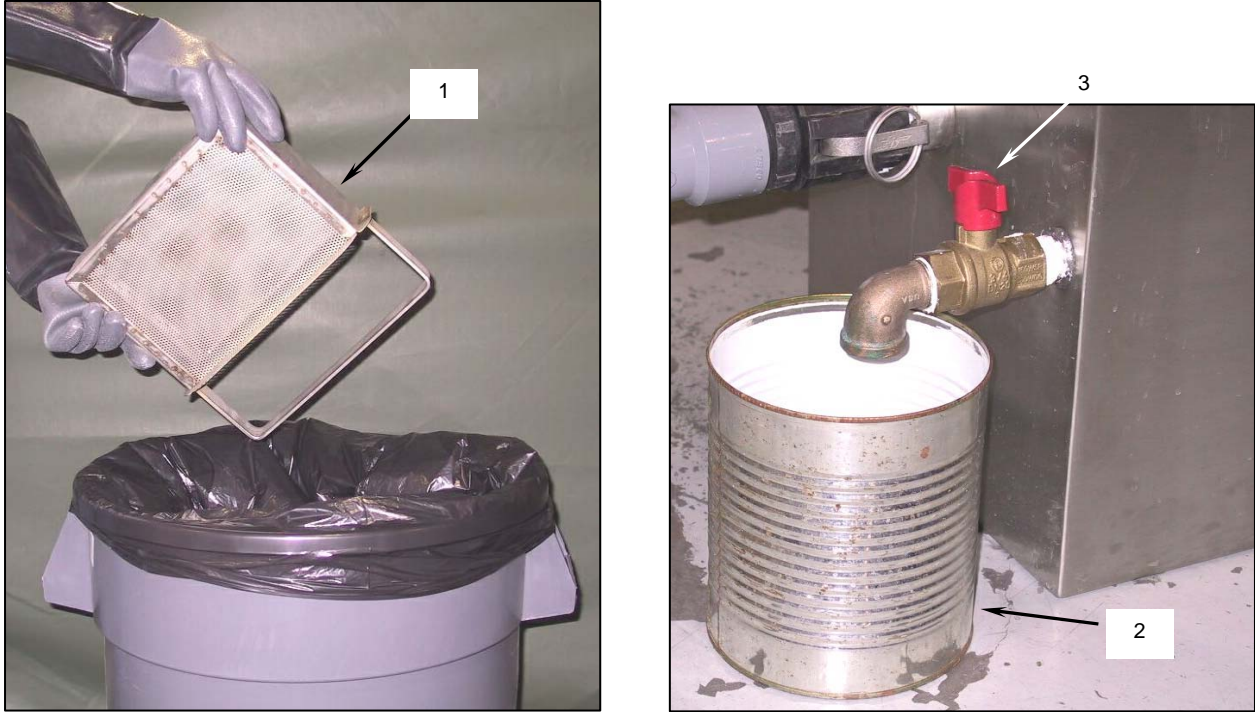

Figure 1. Removing Solids and Grease from the Grease Separator.
3. Remove the strainer basket (**Figure 1, Item 1**) from the grease separator and empty the collected solids into a trash receptacle. Clean the strainer basket using wiping rags and solvent-detergent cleaning compound.
4. Place a #10 can under the grease removal valve spout (**Figure 1, Item 2**).
5. Open the grease removal valve (**Figure 1, Item 3**) and drain the surface grease from the grease separator into the can, then close the valve. Repeat as many times as necessary until all the grease is removed.